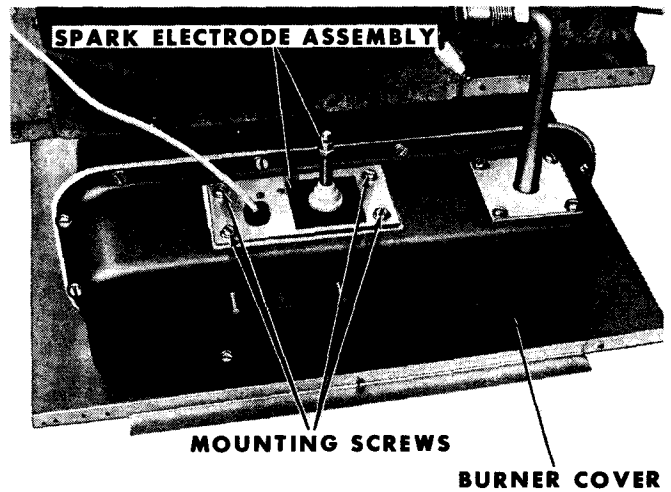
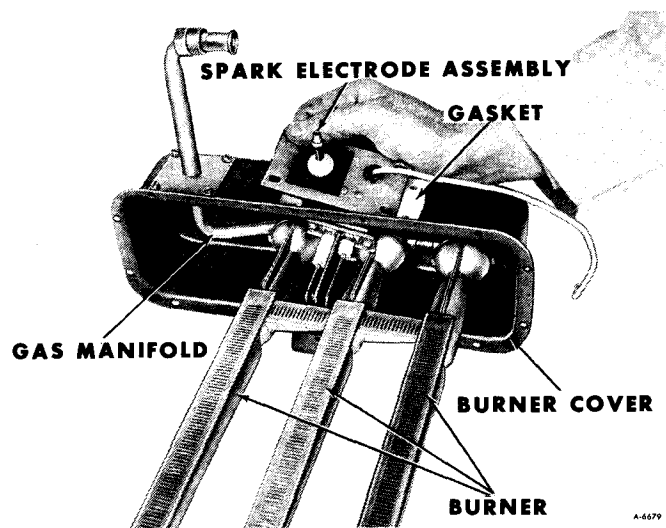

Figure 19—Spark Electrode Installed
Figure 20—Removing Spark Electrode Assembly
7. Remove four spark electrode mounting screws (figure 19).
8. Note spark electrode must clear burner orifices during removal (figure 20). Carefully move spark electrode assembly to the right. Gently tilt upward as shown, and remove from burner cover.
1. Noting the location of burner orifices (figure 20), carefully install spark electrode assembly and gasket. Secure spark electrode assembly with four mounting screws (figure 19).
NOTE: The burner assembly of the furnace is composed of three burners which are attached to the burner cover (figure 20).
2. Remove burner cover and gasket from combustion chamber (figure 19).
2. Install burner assembly and burner cover, and gasket in combustion chamber (figure 19).